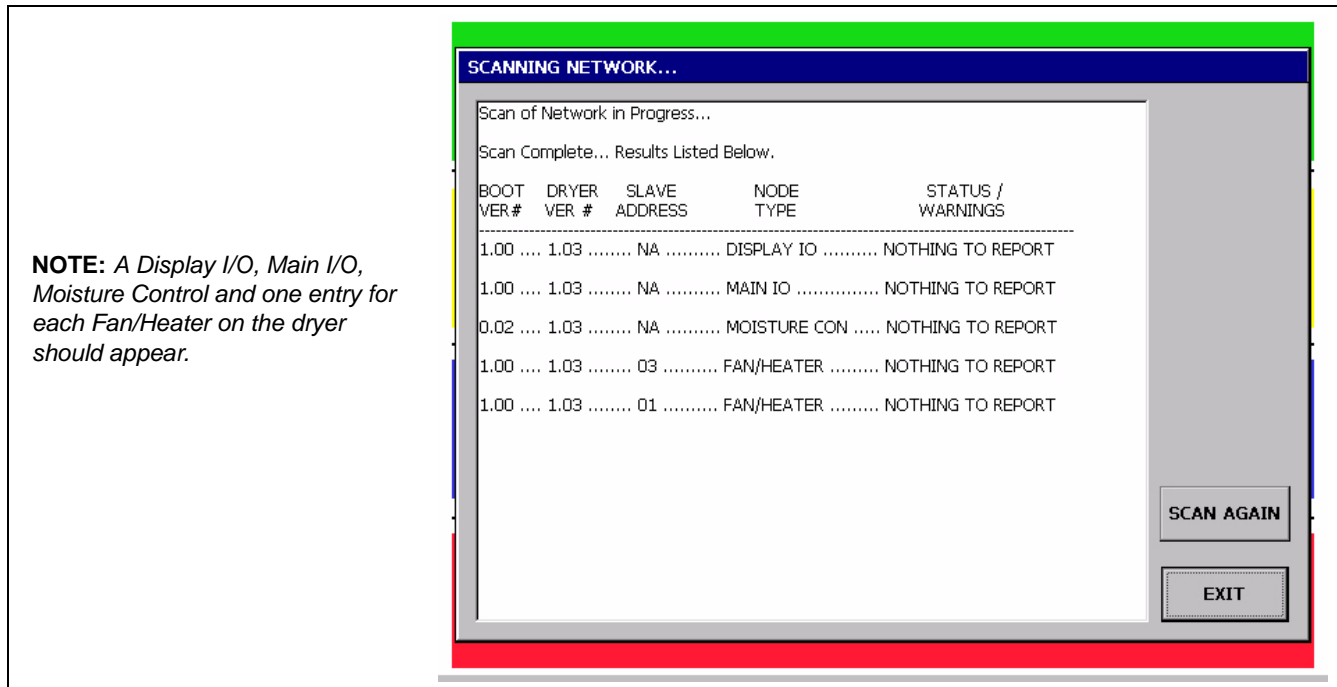

Figure 4F
6. After the scan is complete, the Display I/O, Main I/O, Moisture Control and the Fan/Heater(s) should be shown as “Nothing to Report”. (See Figure 4F.)